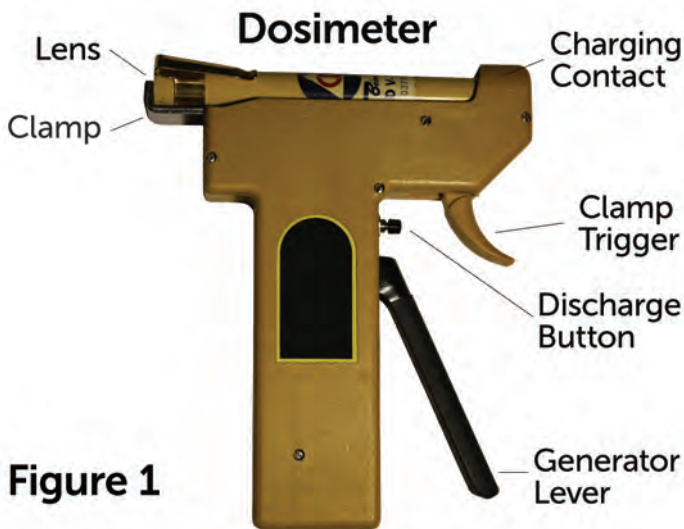

Figure 1
- a. The CDV-750 M6 dosimeter charger (figure 1) can be used to zero all DRDs. The charger is self powered, requiring no batteries. The voltage necessary to charge a dosimeter is generated by squeezing the generator lever. A discharge button allows the operator to set a dosimeter exactly on zero. The clamp trigger pulls on the clamp to allow a dosimeter to be positioned on the charger or be removed from the charger. The charger controls the movement of the hairline fiber inside the dosimeter. When the fiber is on zero, the dosimeter is said to be “zeroed”.
1. Hold the charger upright as shown in figure 1. Lift the clamp and pull it back to its maximum length. Place the dosimeter in the clamp and fit the dosimeter recess (opposite end from the lens) over the charging contact. This allows for electrical contact between the dosimeter and the charger.